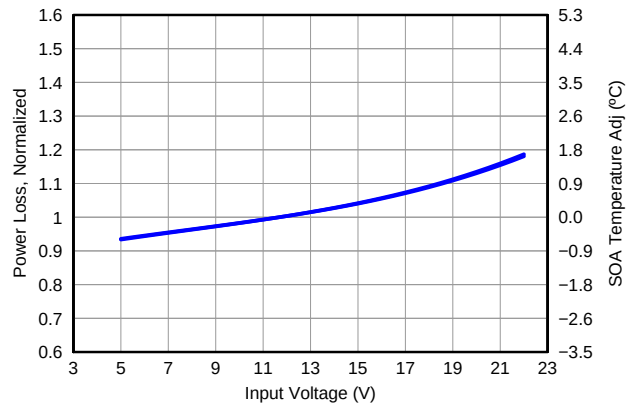

Figure 7. Normalized Power Loss vs Input Voltage
- Normalized power loss for input voltage ≈ 0.94 (Figure 7)
- SOA adjustment for input voltage $\approx -0.7^{\circ}\text{C}$ (Figure 7)